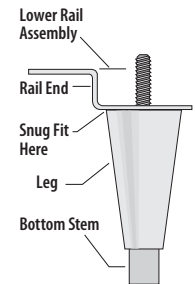

Fig. 6. Loosen castor bolt.
1. Loosen the castor bolt enough to slide the provided castor shims between the castor bearing and the bottom rail of the cabinet. See fig. 6.